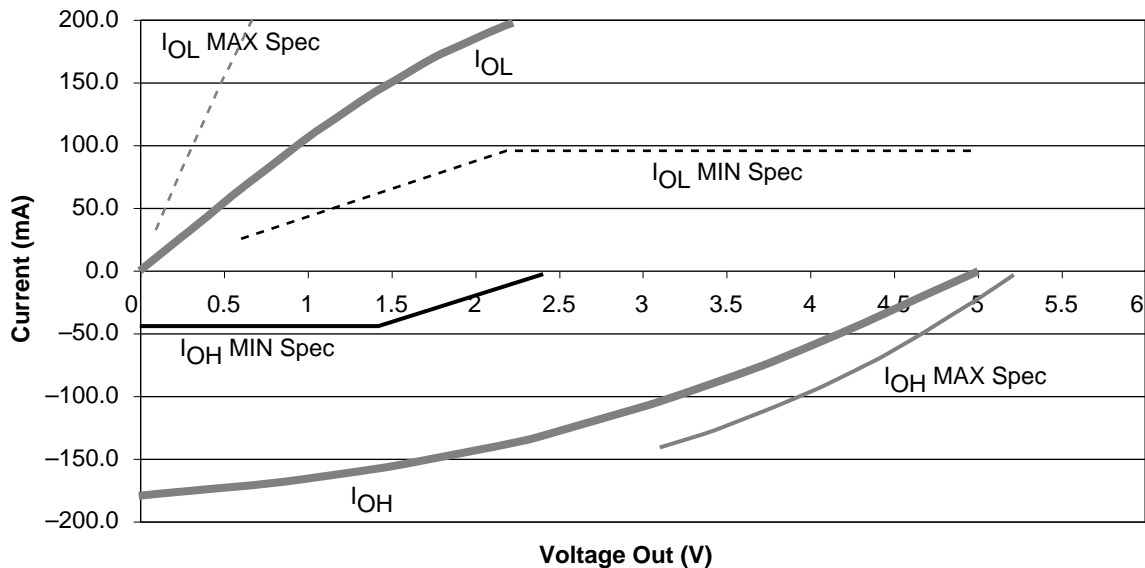

Figure 11 • 5V PCI Curve for HiRel SX-A Family
Figure 11 shows the 5V PCI V/I curve and the minimum and maximum PCI drive characteristics of the HiRel SX-A family.
1. Refer to the VI curves in Figure 11 on page 14. Switching current characteristics for REQ# and GNT# are permitted to be one half of that specified here; i.e., half size output drivers may be used on these signals. This specification does not apply to CLK and RST#, which are system outputs. "Switching Current High" specifications are not relevant to SERR#, INTA#, INTB#, INTC#, and INTD#, which are open drain outputs.
3. Maximum current requirements must be met as drivers pull beyond the last step voltage. Equations defining these maximums (A and B) are provided with the respective diagrams in Figure 11 on page 14. The equation defined maximum should be met by the design. In order to facilitate component testing, a maximum current test point is defined for each side of the output driver.